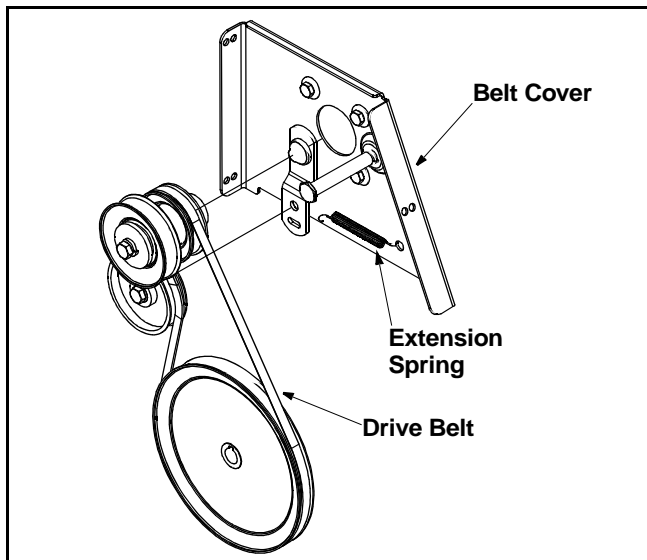

Figure 19
- Unhook the extension spring from the belt cover plate. See Figure 19.